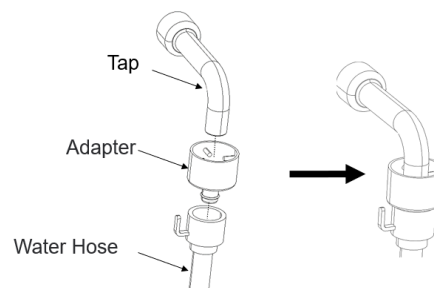

FIG.12
- 3) Install the water hose to the adapter as shown in FIG. 12.